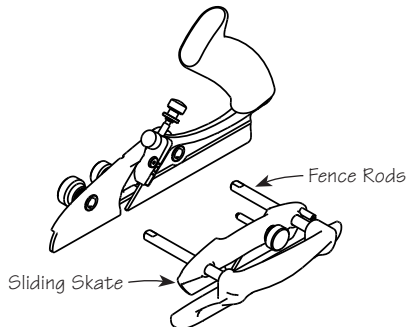

Figure 3: Installing the sliding skate.
2. Slip the sliding skate onto the fence rods, as shown in Figure 3.